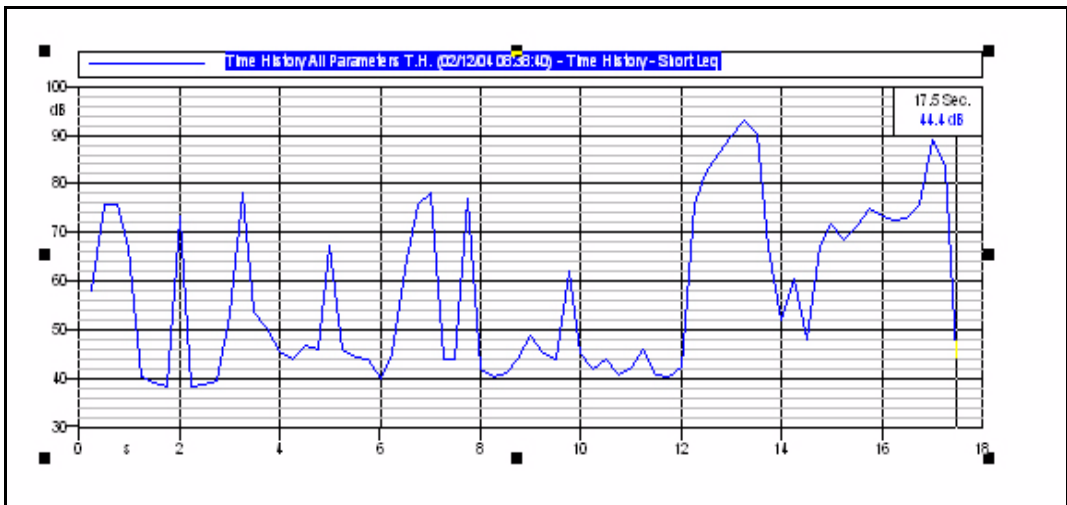

FIGURE 3-26 Time History 824 All Parameters; Short Leq
Following the steps from the example above, left click **File/Open**, highlight the document **Time History_824_All Parameters** from the Demo Data Folder and left click **Open** to open a document containing that measurement. Next, left click **Insert/Graph Template**, select the measurement **Time History Data Block (TH)** and insert the Template “**Time-History** from the 824_ssa folder”. Left click **Next**, then **Finish** to produce the graph of Short Leq as shown in FIGURE 3-26 .